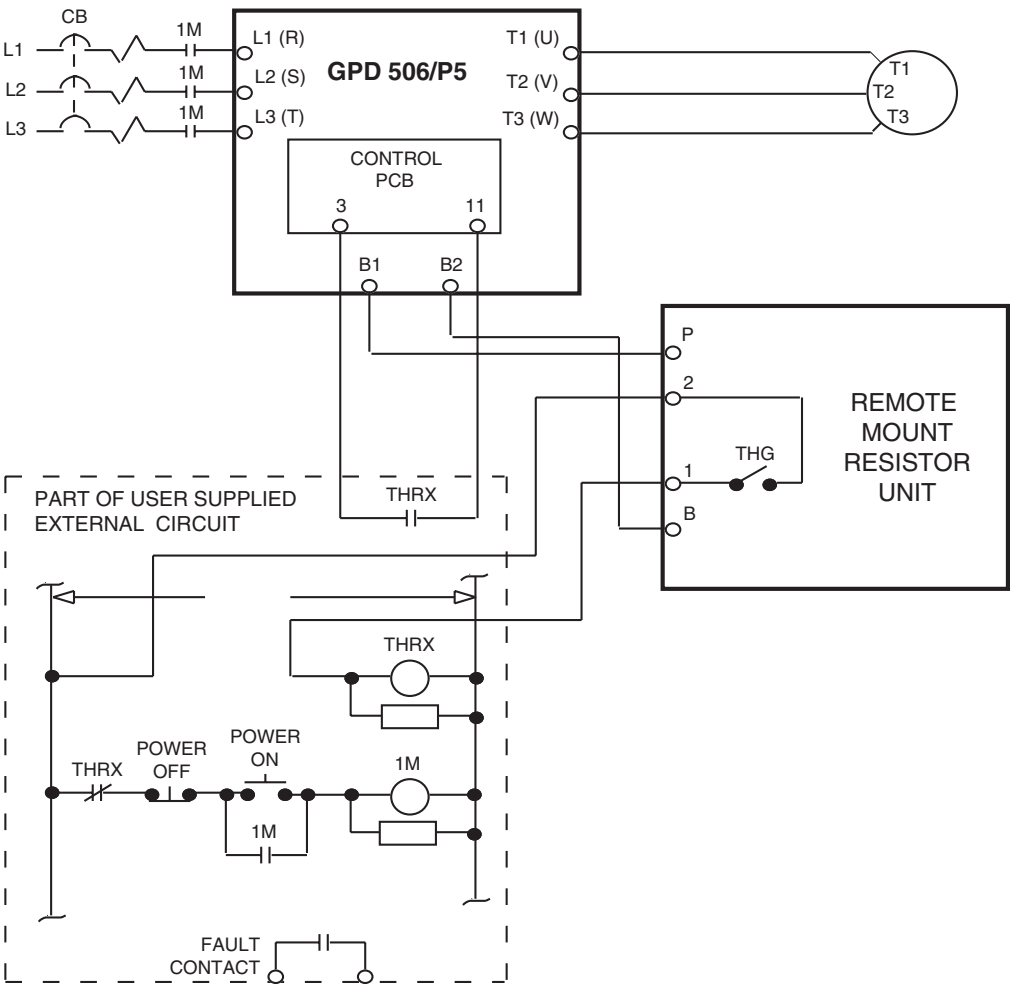

Figure A6-3. Wiring Remote Mount Resistor Unit to Drive (GPD506V-A003 thru -A033, -B001 thru -B034)
2. Remove the Remote Mount Resistor Unit cover to access its terminal block. Connect the Remote Mount Resistor Unit to the drive and to external control circuitry according to the chart at right and Figure A6-3.